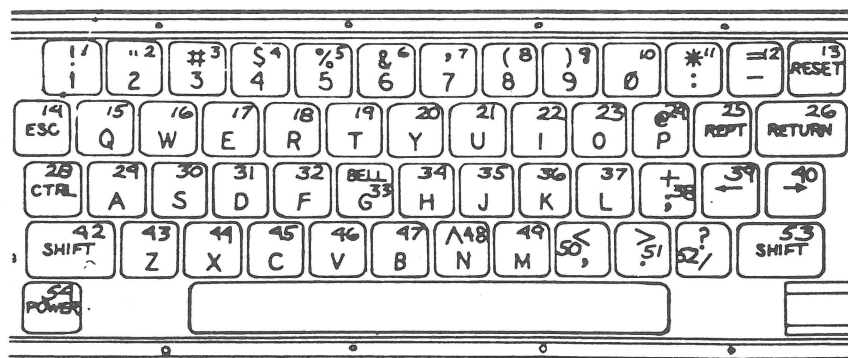

FIGURE 1
1. To determine which key you want to remove, look at Figure 1 and find the number corresponding to the desired key. Locate that number on the back of the keyboard.